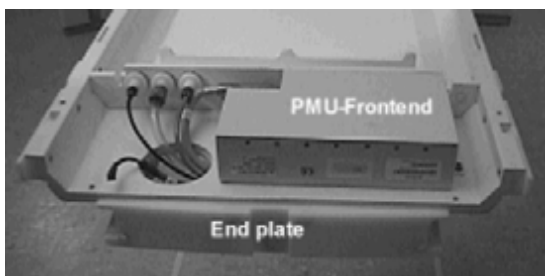

Fig. 33: PMU front end at standard tabletop
- Remove the hose connections on the tabletop. \(Fig. 33 / p. 40\)